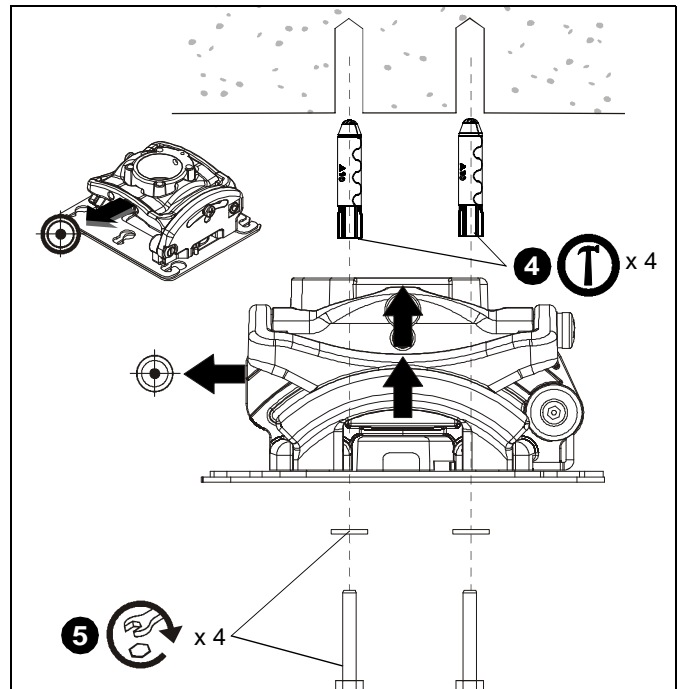

Figure 9
- Secure RPME to structure using four 1/4" flat washers and four #10-24" x 3" wood screws (not included). (See Figure 9)